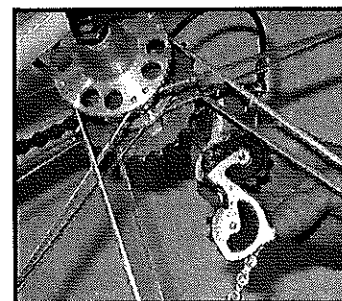

Fig. 19
7. When the right-side end of the quick release has cleared the inside of the right dropout, rotate the derailleur back. Push the wheel forward and down to disengage the chain (Fig. 19).